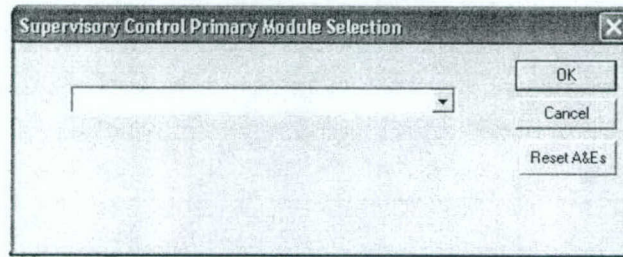

Figure 8-2 Decision Aid Module Startup Screen
1. Start “Supervisory Control” program by double clicking on the “Supervisory Control” icon on the SCS_SERVER_PC. The “Supervisory Control Primary Module Selection” window will appear. (See Figure 8-2.)